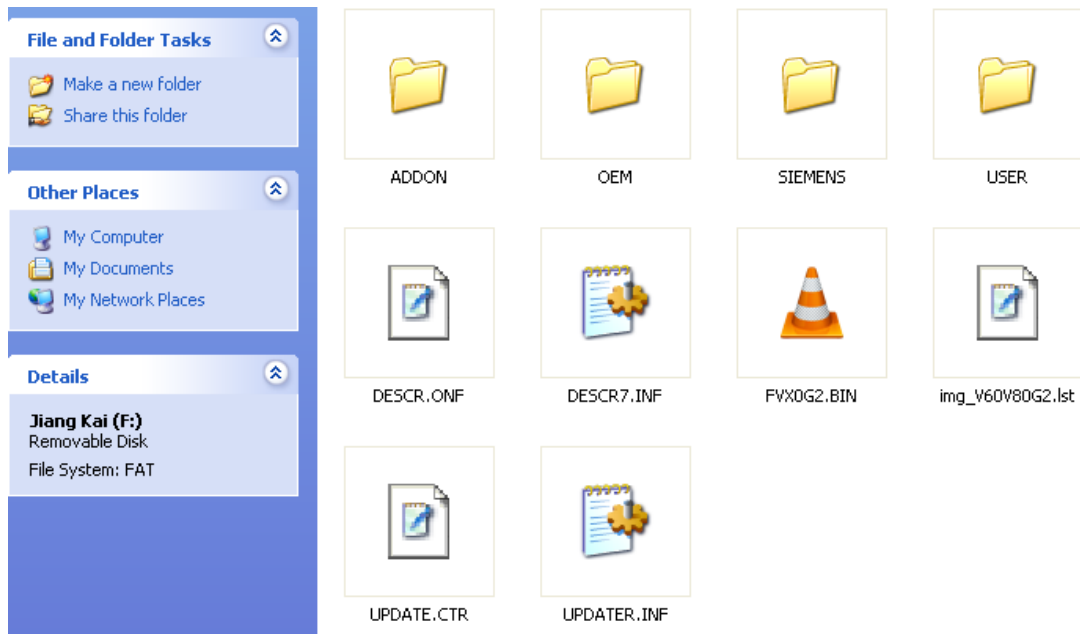

Figure 1 V90 firmware files after extraction
1. Extract the V90 firmware release package, afterwards open the folder for files as figure 1.